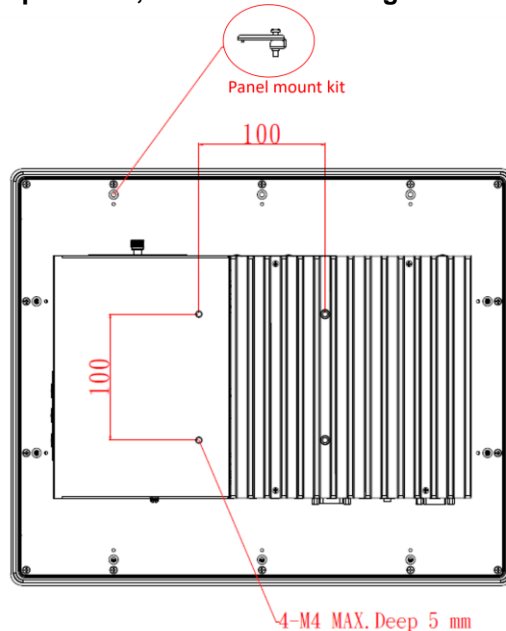

Figure 2-2: Panel mount dimensions (back chassis)
- Step 3** Locate the screwing holes and the positions of the hook brackets on the back side of the panel PC, as shown in the Figure 2-2.